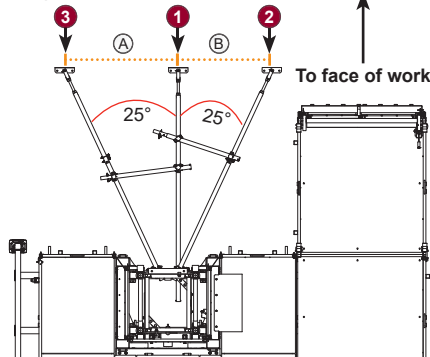

fig. 6.16
- 4- Following the order of installation, anchor the other two wall tie brackets ("2" and "3" in fig. 6.18) at the angle of installation shown in fig. 6.16, p. 82.